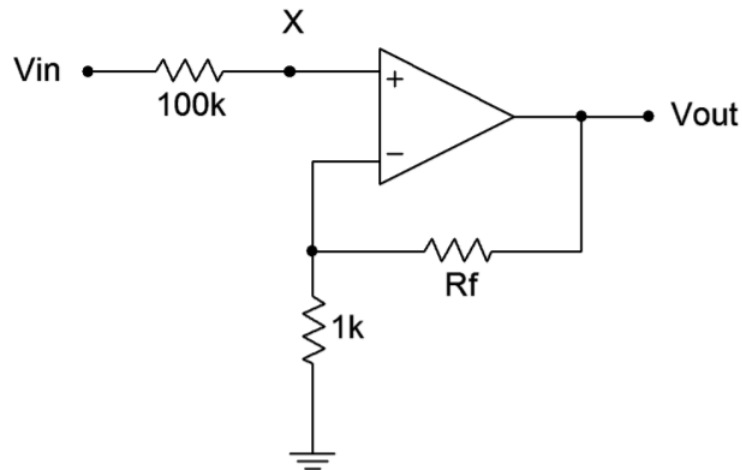

Figure 4.5.2
10. It is not practical to use an ohmmeter to determine the input impedance of an active circuit. Instead, input impedance can be found by utilizing the voltage divider effect. Modify the circuit by adding the extra input resistor as shown in Figure 4.5.2.